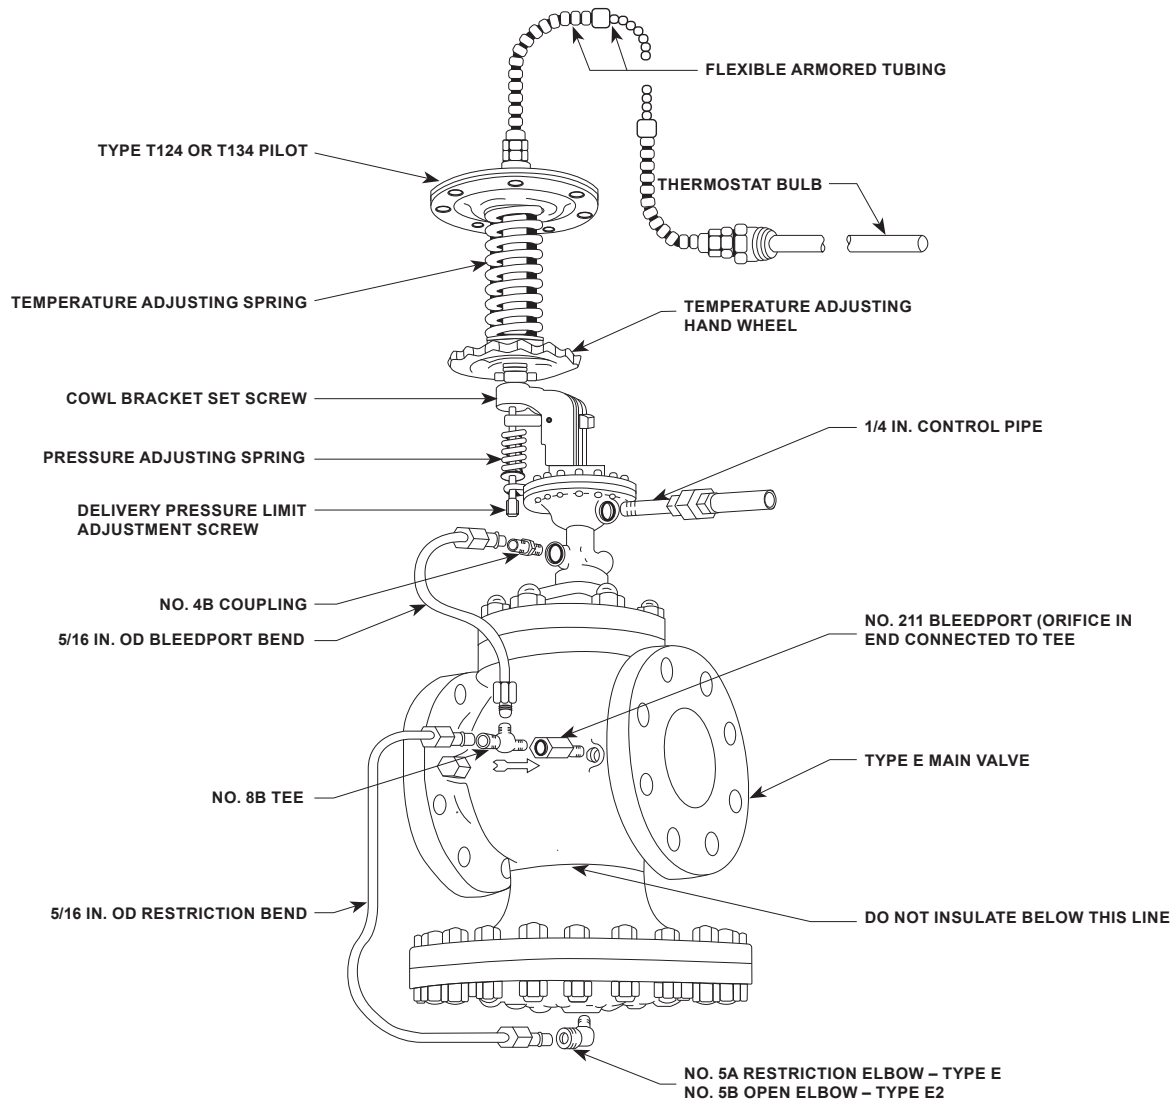

Figure 3. Regulator Assembly for Type ET214 or ET134 with Integrally-Mounted Pilot
1. Remove the protecting cover from the top flange of the valve and flange of the pilot. Mount the pilot to the valve as shown in Figure 3.
5. Connect the tubing bends as illustrated in Figure 3 for Type E and E2 main valves.
1. Use 1/4 in. / 6.35 mm pipe for this line which connects the pilot pressure diaphragm chamber to the desired point of pressure control. See Figure 3.
Insulation may be applied to the upper portion (globe and flanges) of the main valve. Do not insulate the diaphragm chamber or any part of the pilot. See Figure 3.
1. Close by-pass. Open 1/4 in. / 6.35 mm control pipe valve and turn up temperature adjusting wheel, until 1/2 in. / 12.7 mm of thread is exposed. Back off pressure adjusting screw to remove all compression from pressure limit spring. (See Figure 3)